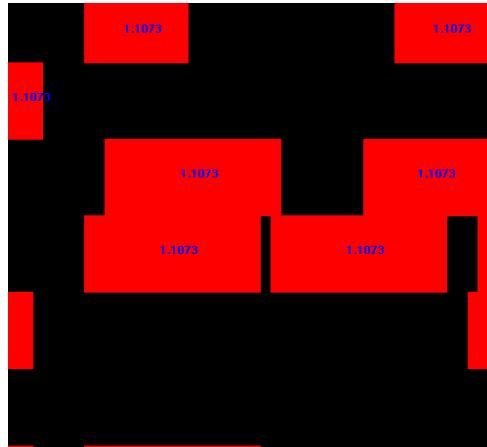

Figure 4-11 View individual instance IR drop values with **View -> Map Configuration -> IR Drop Color Map**
2. Zoom in so that individual instance voltages can be seen, as shown in Figure 4-11.